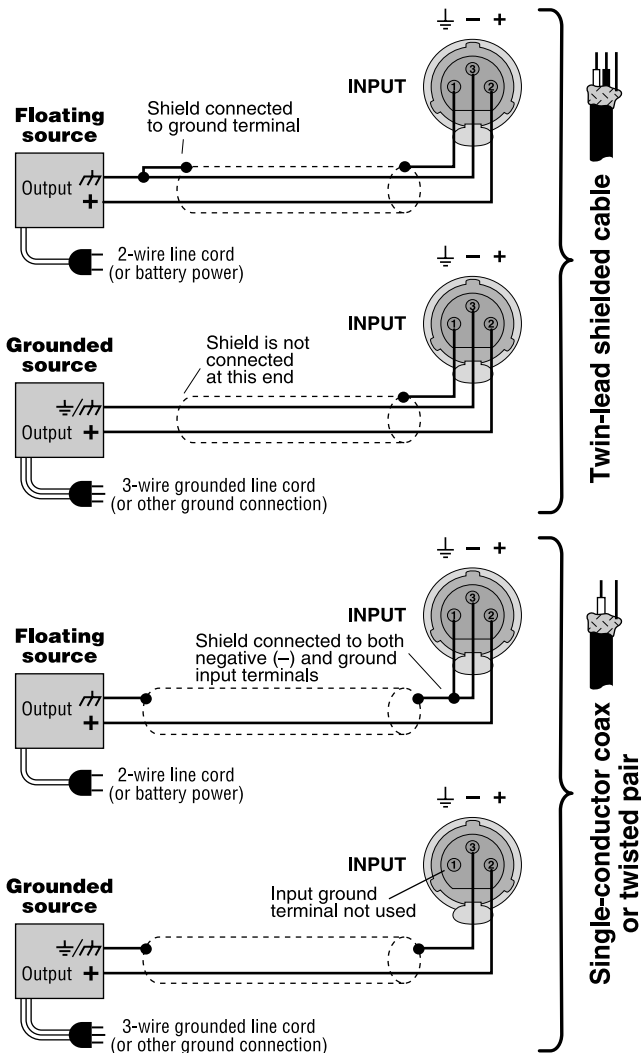
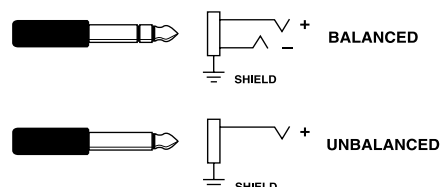

Fig. 3.7 Unbalanced Input Wiring
Fig. 3.9 Balanced and Unbalanced Phone Plugs
Both the balanced XLR and phone jack inputs have a nominal impedance of 20 k ohms (10 k ohms with unbalanced wiring) and will accept the line-level output of most devices. Female three-pin XLR input connectors are provided on the standard P.I.P.- FX input module (other PIP modules are described in Section 8.1). Correct input wiring will depend on two factors: (1) whether the input signals are balanced or unbalanced, and (2) whether the signal source floats or has a ground reference. Figures 3.7 and 3.8 show the recommended connection techniques for each type of signal source.
standard tip-ring-sleeve (TRS) configuration: the tip is positive (+), the ring is negative (-) and the sleeve is ground (see Figure 3.9). Wiring for various sources follows the XLR wiring guidelines shown in Figures 3.7 and 3.8.